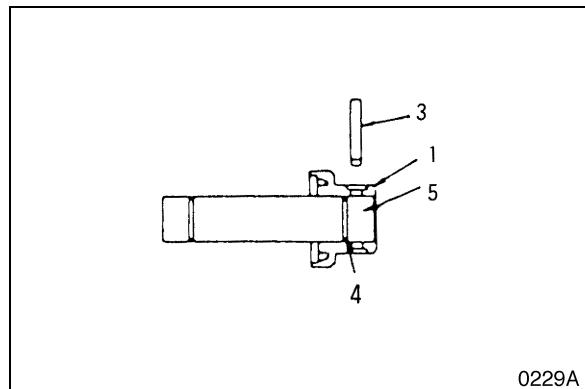

Figure 26
1. Degrease, clean and dry all parts before reassembly. Insert bushing (8, Figure 26) into idler (7).
2. Grease O-ring (4, Figure 26) and insert it into the axle.
3. Align bearing (1, Figure 26) and axle (5) holes, then pin (3) them together.